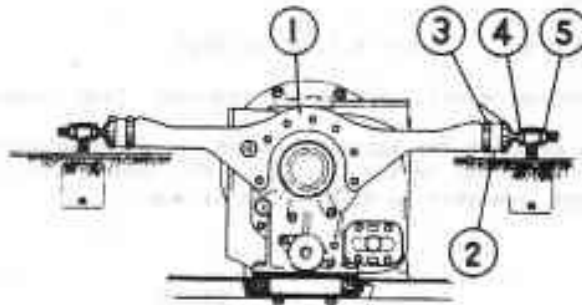

FIG. E2. GEARBOX REAR MOUNTING.
- (1) Disconnect speedometer drive and flexible oil pipe from rear of gearbox.
- (2) Disconnect oil damper control rod.
- (3) Slacken back inner nuts (4, Fig. E2), and remove torque reaction rubbers then remove torque bracket.
- (4) Remove tie-bar complete with bracket and packing piece.
- (5) Disconnect centre universal joint; disconnect front propeller shaft from gearbox, slide clear.